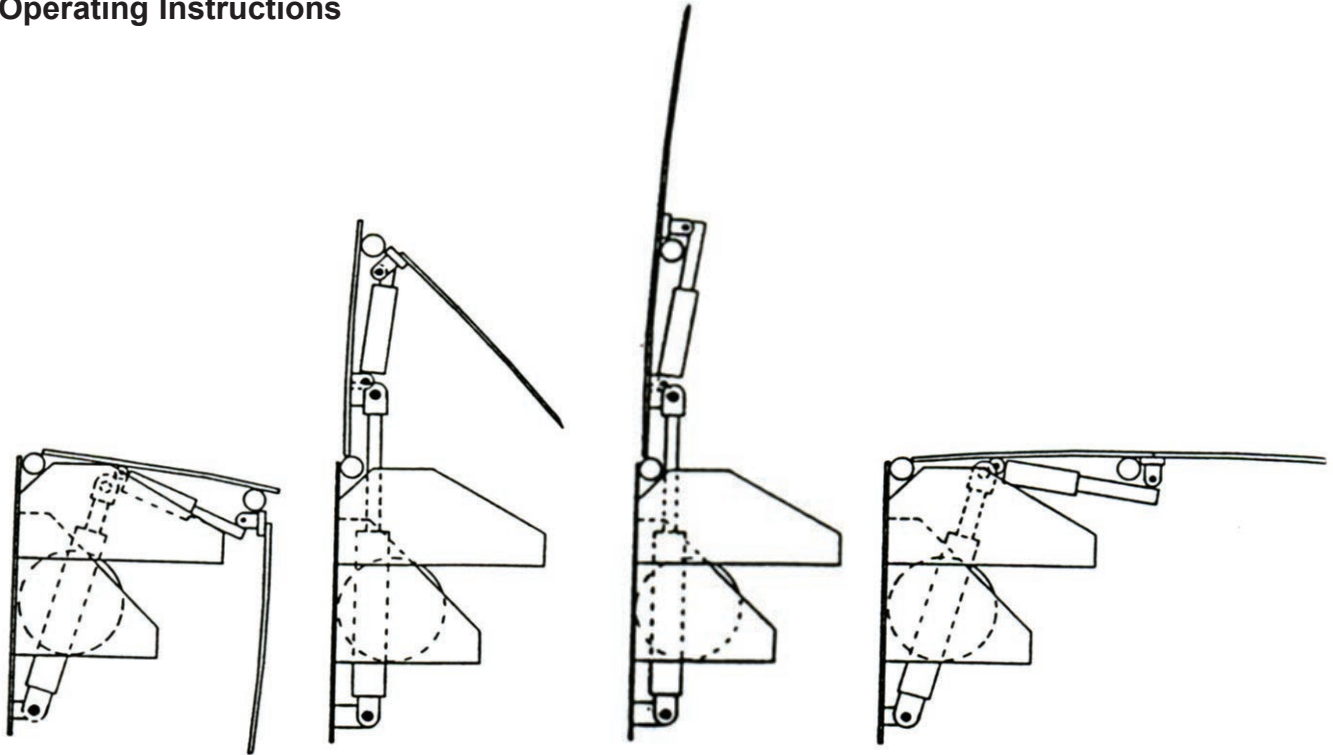

Figure 15
5. Extend the dock leveler onto the transport vehicle as follows (see Figure 15):